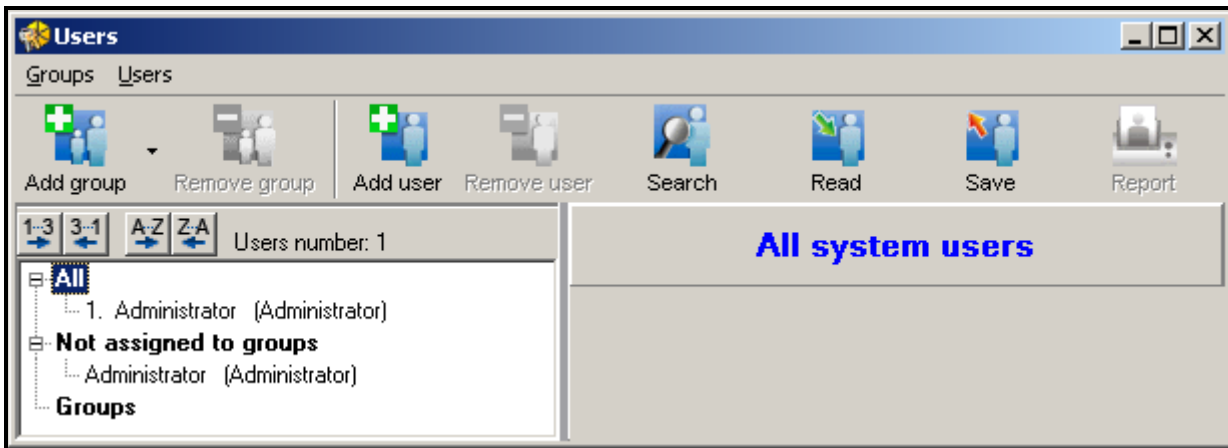

Fig. 23. View of the USERS window before adding the users.
1. Click with your mouse cursor on the button designated USERS, which is available on the program menu bar (see Fig. 21). The USERS window will be displayed (see Fig. 23).
19. End the procedure of user adding by clicking on the SAVE button (see Fig. 23).
1. Click with your mouse on the button designated USERS, available on the program menu bar (see Fig. 21). The USERS window will open (see Fig. 23).
1. Click your mouse on the USERS button on the program menu bar (see Fig. 21). The USERS window will open (see Fig. 23).
1. Click on the USERS button, available on the program menu bar (see Fig. 21). The USERS window will open (see Fig. 23).